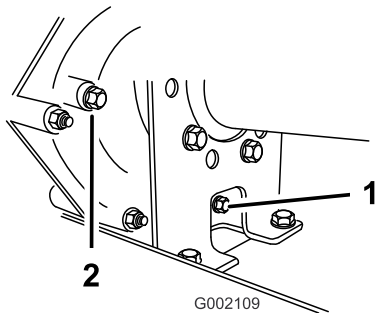
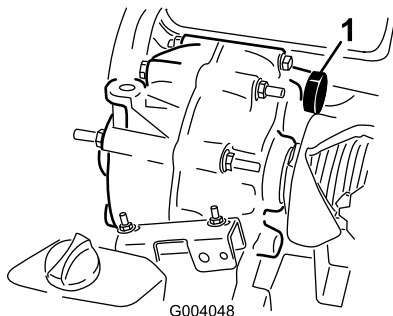

Figure 35
Figure 36
2. Remove the drain plug from the right side of the reservoir (Figure 35), and let the fluid flow into a drain pan.
4. Fill the reservoir (Figure 36) with approximately 1-1/2 qt. (1.4 liters) of SAE 10W30 motor oil or until the oil level is at the bottom of the level indicator hole (Figure 35).